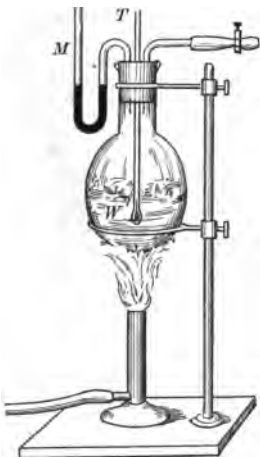

FIG. 171. — Boiling water.
**198. Process of boiling water.** Let us fill a round-bottomed flask (Fig. 171) half full of water and put through the stopper a thermometer,